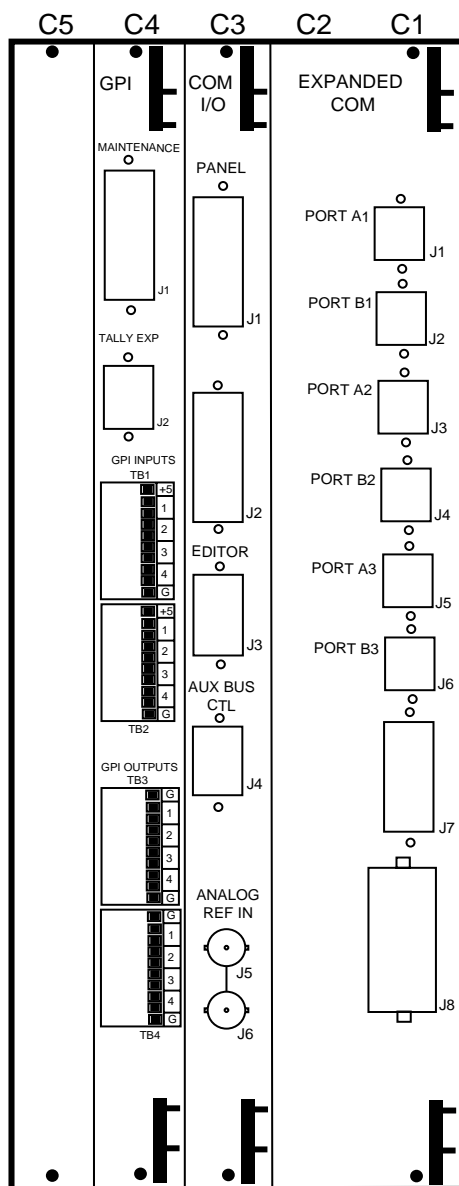

Figure 2-42. Signal Processor Frame Rear Connections (Control Section)
You can connect external devices such as Video Production Editors, Digital Effects Systems such as GVP's Krystal, Kaleidoscope, and DPM-700, GPI connections, Tally Expansion, and a maintenance terminal to the Model 4000 switcher. These are connected to the switcher via the Communications I/O Module, GPI Module, and the Expanded Communications Module, located at the C Bay of the Frame as shown in Figure 2-42. (The Tally Module pinouts are shown in Figure 2-52.)
1. Attach the signal cable from the editor to the EDITOR port (J3) located on the Communications I/O Module in Slot C3 as shown in Figure 2-42.
The four GPI connectors on the rear panel of the Signal Processor Frame provide eight input and eight output GPI connections. See Figure 2-42. These connections provide a variety of user-assignable GPI applications such as remote control of Auto Transitions, DSK mix, Fade-to-Black Transitions and other selected functions. Refer to “External Interface Setup” later in this section for defining GPI inputs.